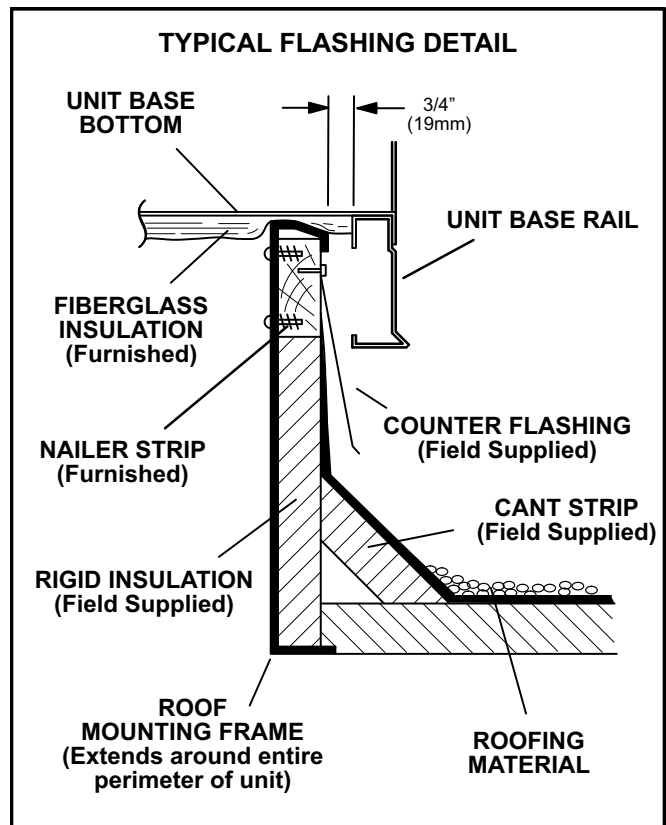

FIGURE 8
- 2- Counter-flash and seal around frame as shown in figure 8.